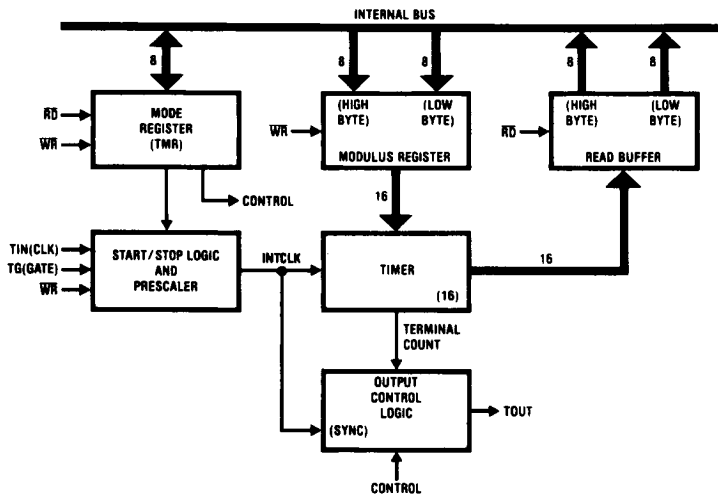

FIGURE 3. Timer Internal Block Diagram (One of Two Timers)
Primary components of one timer are shown in *Figure 3*. The timer mode register is a read/write register providing
the primary characterization of the timer output. The start/stop logic and prescaler block divides the clock input by the prescale factor, passing the output (INTCLK) to the binary down-counter. This block also gates the clock input signal (TIN) with the timer gate signal (TG). The timer block loads the modulus from the modulus register and uses (INTCLK) to count to zero. It loads the current count into the read buffer block where the CPU can access it at anytime. This timer block also indicates to the output control logic when the modulus is loaded (or reloaded) and when the count reaches 0. The output control logic block drives the output pins according to the timer mode register and the timer block. The output of the timer block (Figure 3) (terminal count) is related to the input TIN by:
The timer prescale divides the input clock (TIN) and provides the output (INTCLK) to the drive the timer block (*Figure 3*).